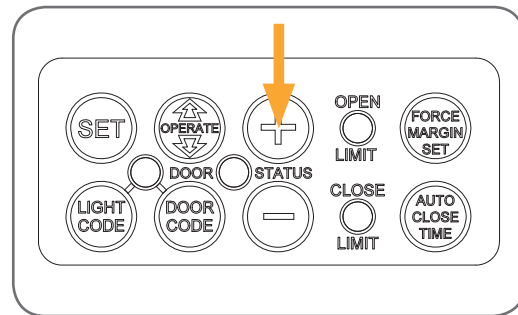

fig 49
- Press and hold the OPEN button (Fig 49) for six (6) seconds until the OPEN and CLOSE LED's are lit to record the new pet position.